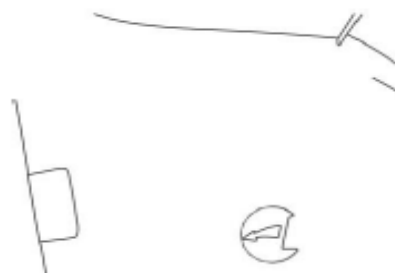

Fig. 11
2. Move the lever (5) to the @ position to use the product as a vacuum. (Fig. 11)